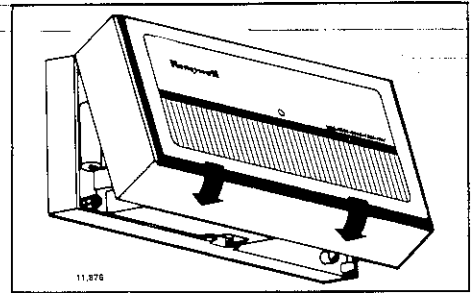

Fig. 9—Attach cover.
- Place the two tabs on upper edge of cover into mounting slots in thermostat base (Fig. 9).